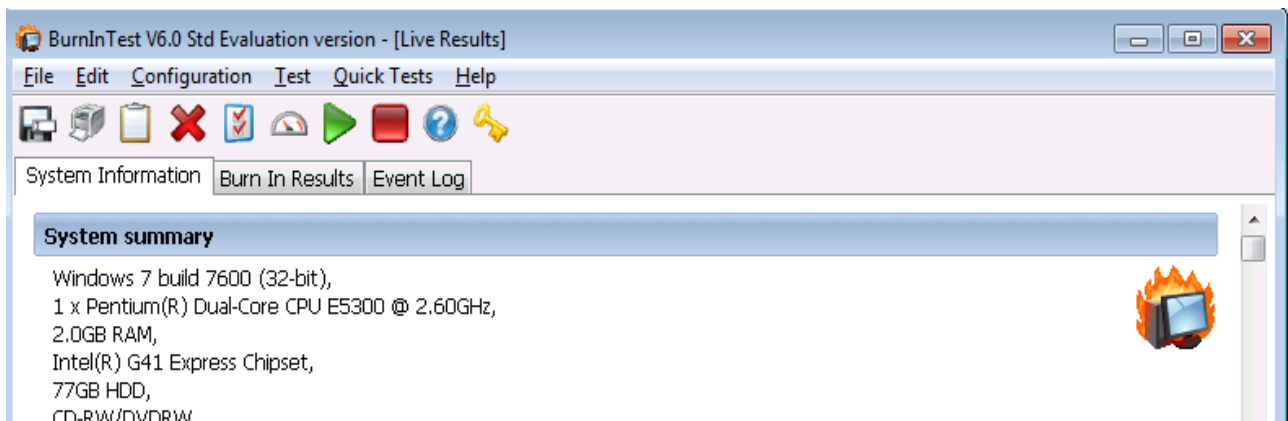

Figure 5.6
- A “Burn-InTest” window will appear shortly. Below in Fig. 5.6 is part of the window.
3. Click and drag the vertical bar down, until you find “Memory” test results as in Fig.5.6 below.